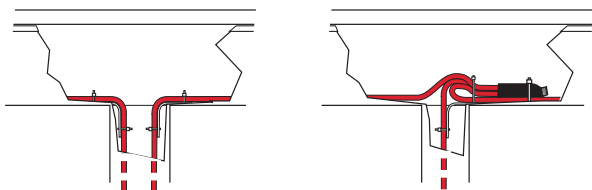
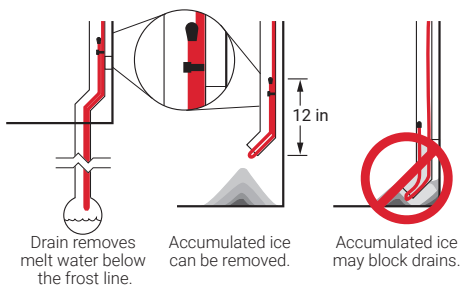

Figure 15: Heating cable at top of downspout
Figure 16: Heating cable at bottom of downspout
- External downspouts and scuppers must be treated carefully. A path must be provided for the valley/perimeter heating cable to the point of discharge (see Figure 15 on page 28).
Ice may form in downspouts and prevent melt water from escaping from the roof. To maintain a continuous path for melt water to run off, run the heating cable inside the downspout to the end as shown in Figure 15 and Figure 16 below. Follow the appropriate attachment recommendations in “Attachment Methods”, page 29. Additional heating cable may be needed for the roof surface, gutters, and valleys.